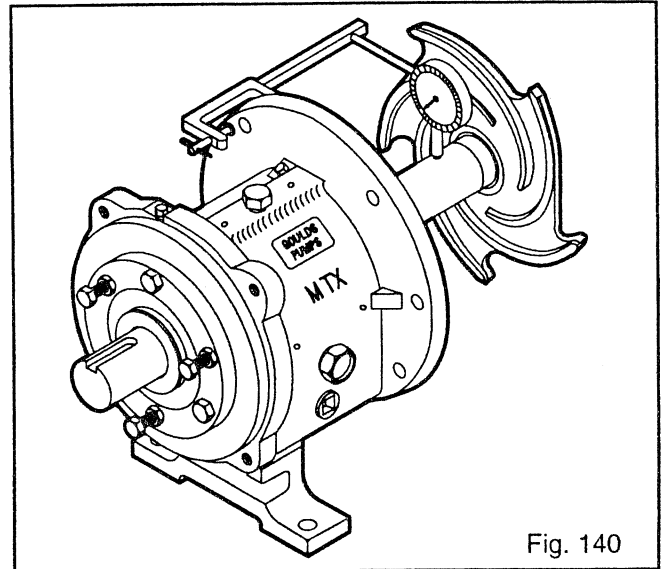

Fig. 140
3. Check shaft/sleeve runout. Put on shaft sleeve (126) if used, and thread on impeller, hand tight. Rotate shaft 360 degrees. If total indicator reading is greater than .002 in., disassemble and determine cause. Remove impeller and shaft sleeve (Fig. 140).